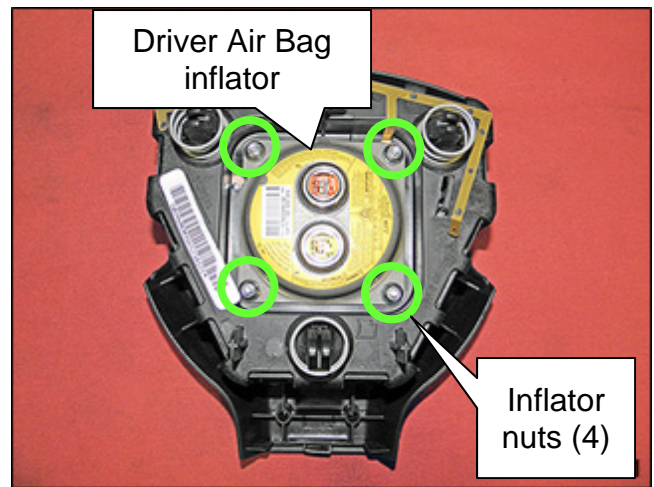

Figure 11
10. Remove the four (4) driver Air Bag inflator nuts shown in Figure 11.